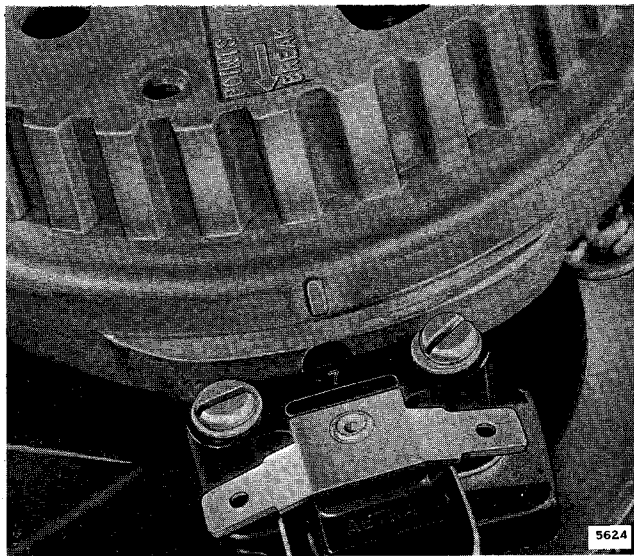

Figure 4-20. Timing Marks - Magneto Pulley
a. Rotate pulley so that timing mark is in line with center of safety switch plunger. See Figure 4-20.
c. With timing mark on flywheel aligned, timing mark on magneto pulley and safety switch plunger should be in line. See Figure 4-20. If not, loosen magneto bracket mounting screws to release belt tension, and rotate pulley until marks are aligned.